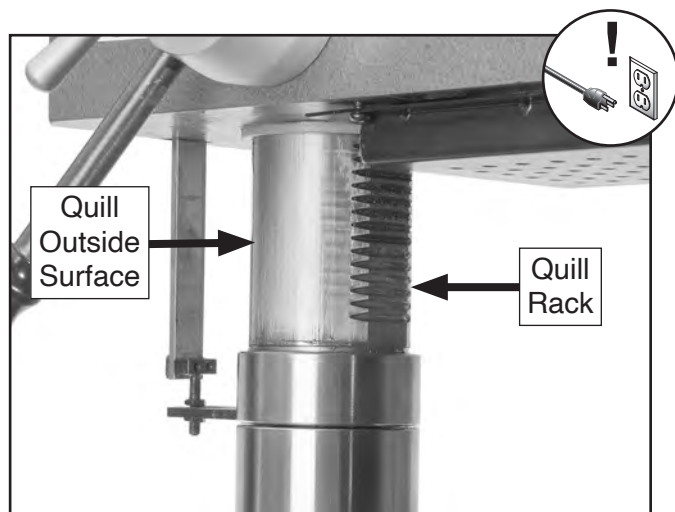

Figure 51. Location of quill surface and rack.
2. Without disturbing grease on quill rack, clean outside smooth surface of quill with mineral spirits and shop rags (see **Figure 51**).